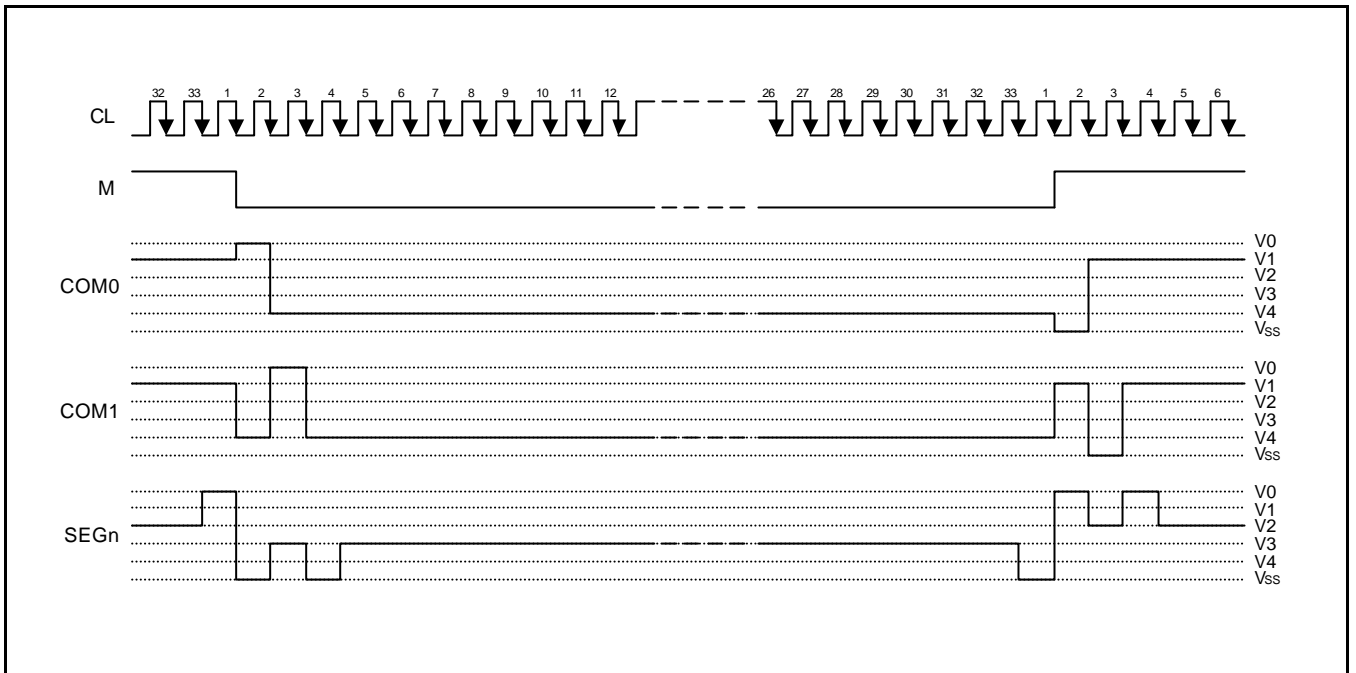

Figure 12. 2-frame AC Driving Waveform
This circuit generates some signals to be used for displaying LCD. The display clock, CL, generated by oscillation clock, generates the clock for the line counter and the signal for the display data latch. The line address of on-chip RAM is generated in synchronization with the display clock (CL) and the 100-bit display data is latched by the display data latch circuit in synchronization with the display clock. The display data, which is read to the LCD driver, is completely independent of the access to the display data RAM from the microprocessor. The display clock generates an LCD AC signal (M) which enables the LCD driver to make a AC drive waveform, and also generates an internal common timing signal and start signal to the common driver. Driving 2-frame AC driver waveform and internal timing signal are shown in figure 12.